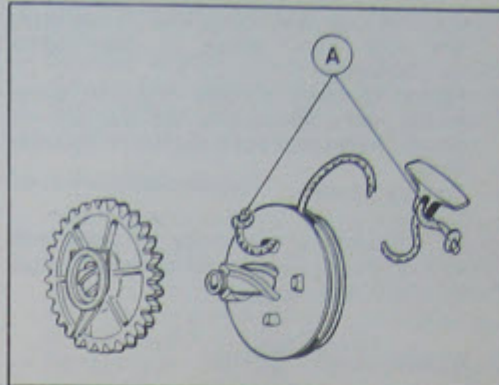

Fig. 29 Remove rope from pulley untie knot (A)
- Remove brake spring (10), and washer (8), (only early type starters) and separate gear (7) from pulley (6). If necessary replace rope (12) referring to Fig. 29.
- Untie knot A and remove rope from handle (14) and pulley (6).